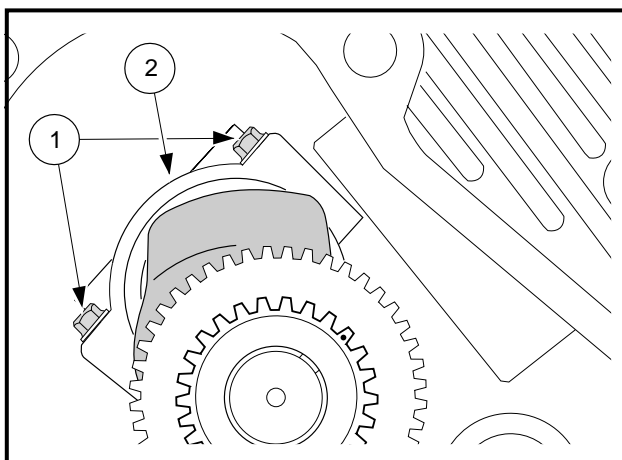

Figure 13-51 Connecting Rod Cap Bolts
1. Turn crankshaft to expose the two connecting rod cap bolts (1) (**Figure 13-51, Page 13-27**).
2. Loosen the cap bolts and take them out together with the connecting rod cap (2).